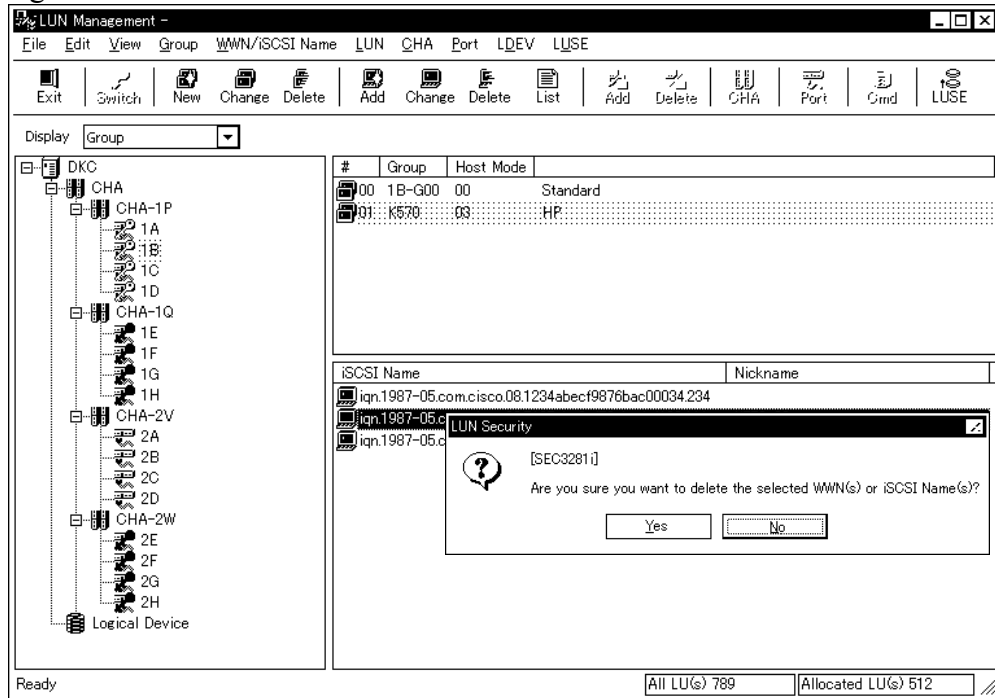

Figure 4.7.1 Main Window
- ① Select (CL) a iSCSI Name you want to delete from the lower right list.
- ② Select (DR) [Delete] from the [WWN/iSCSI Name] menu in the Main window (Figure 4.7.1).
- ③ Since a message asking for a confirmation is displayed, select (CL) the [OK] button.
- ④ The iSCSI Name that has been selected from the lower right list is deleted.